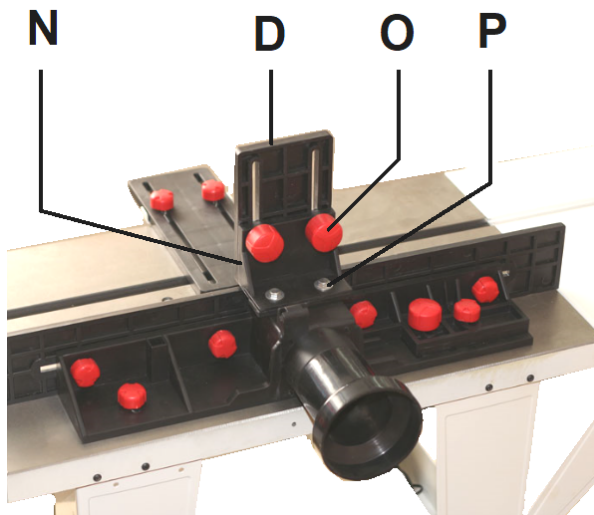

Fig 11-1
Attach the hold down support (N, Fig 11-1) with two screws and nuts (P).